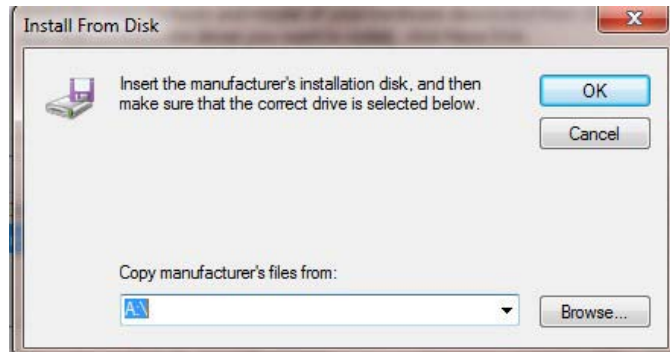

Figure 11 • Locating the Device Driver
11. Click **Browse** in the **Install From Disk** window shown in Figure 11 and go to **C:\WINDOWS\inf**.
13. Click **OK** to close the **Install from Disk** window. Refer to Figure 11 on page 16.